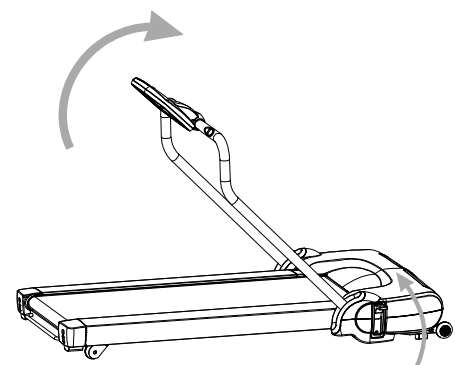

FIG 2.
2. Release the fold locker to Raise the handlebar into the upright position as shown in FIG 2.